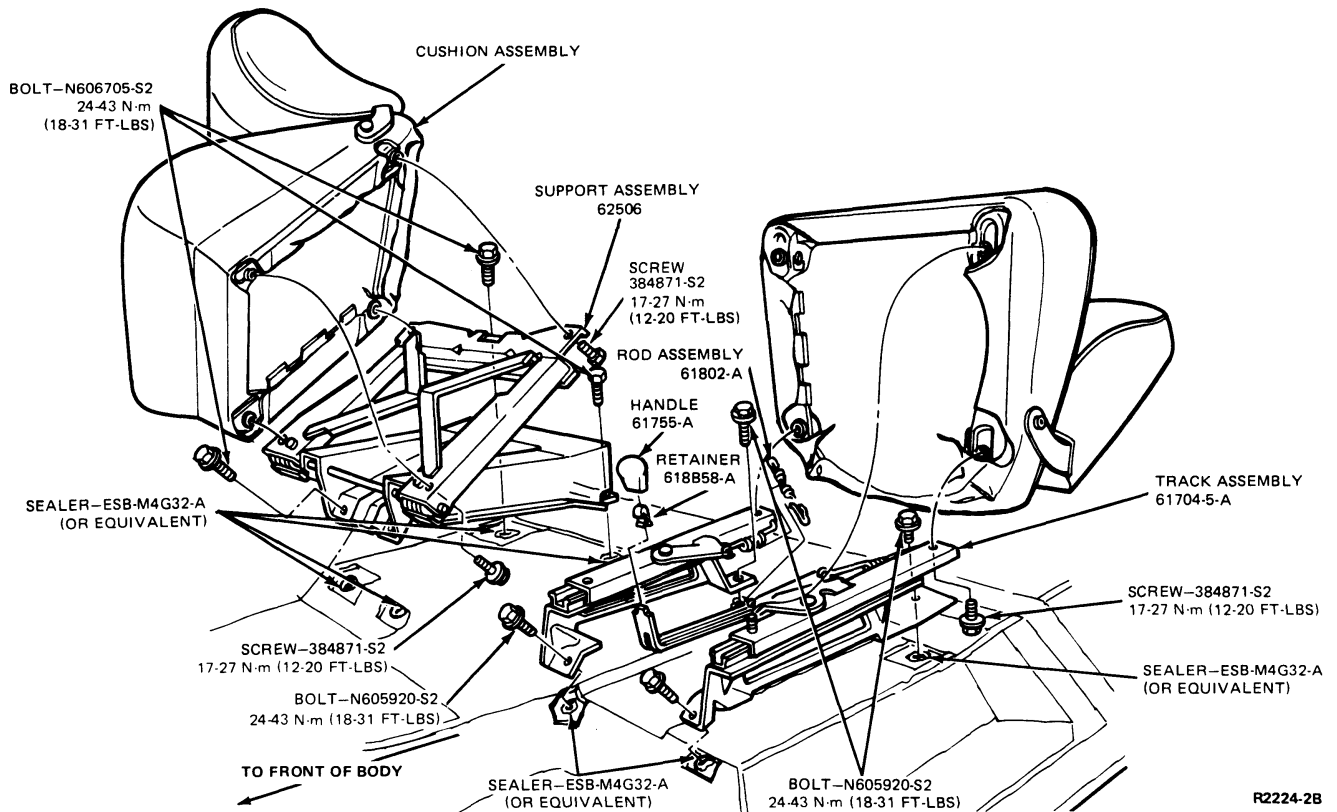

FIG. 5 Bronco Bucket Seat Installation
To rotate the seat, lift the lock handle on the right side of the seat pedestal (Fig. 3). The passenger seat automatically latches in either the forward or rearward facing positions. The drivers seat can be latched in the forward position only. The seat may be more firmly locked in the latched position, against slight movements, by rotating the lock handle downward or sliding handle full forward. An alternate seat support for captains chairs is shown in Fig. 5. To rotate, actuate handle rearward to unlatch the seat and rotate. Actuate handle forward to latch mechanism.
Refer to Figs. 5 and 6.
2. Position seat and track assembly on the floor and secure bolts, putting sealer under track assembly (Figs. 5 and 6). Tighten bolts to 24-43 N·m (18-31 ft-lbs) on bucket seats and to 25-44 N·m (18-32 ft-lbs) on Captains chairs.